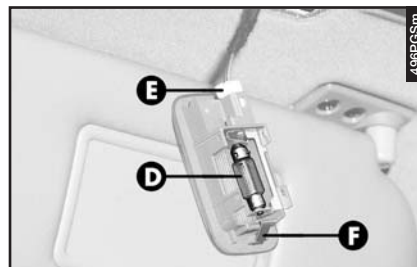

fig. 75
- Remove the bulb (**D-fig. 75**) pulling outwards and releasing from the side contacts.
- Refit the light unit firstly inserting from the side (**E-fig. 75**) and then pressing on the other side until the catch clicks into place (**F-fig. 75**).